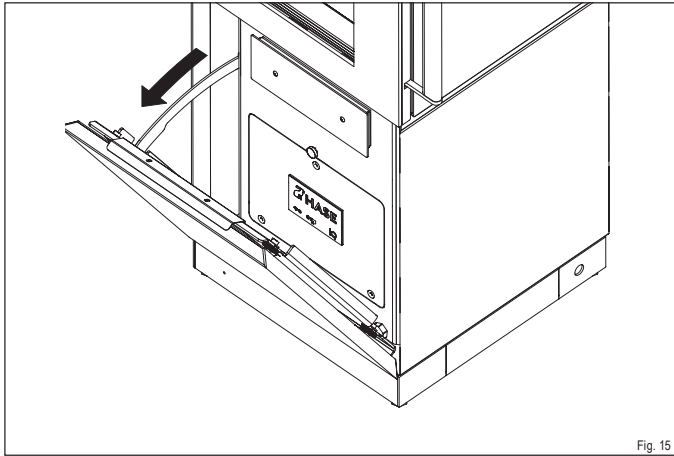

Fig. 15
- ▶ **Open the service door (Figure 15).**
- ▶ **Pull the ash drawer out of the opening by the cover (Fig. 15).**